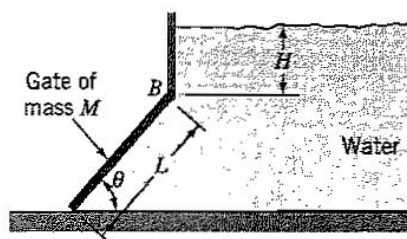

Figure P2.35
2.35 The rectangular gate shown in Figure P2.35 (of width W and length L) is made of a homogeneous material and it has a mass m . The gate is hinged without friction at point B. Determine the mass required to hold the gate shut when the water depth at the point B is H .